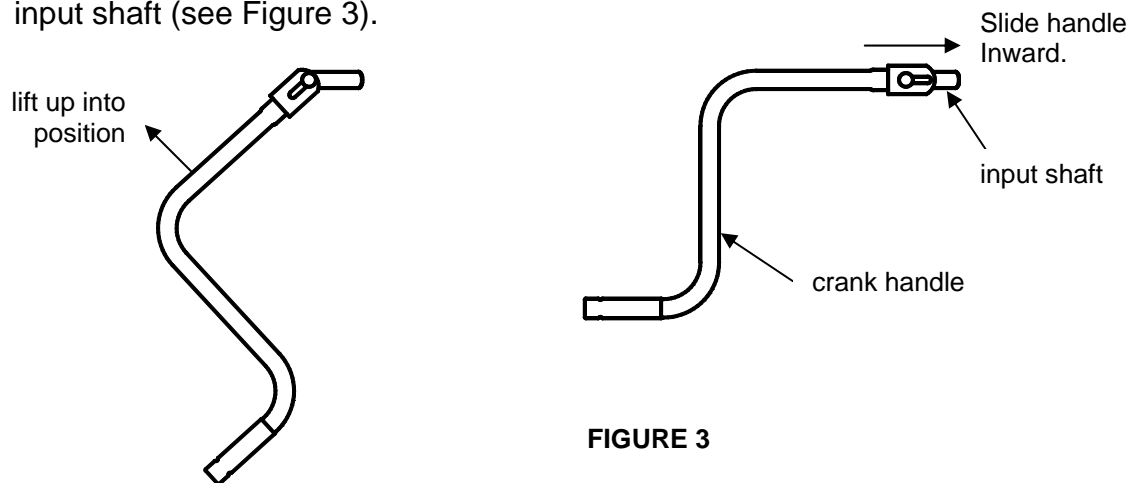

FIGURE 3
1. To latch into the cranking position, raise the crank handle into the operating position and push inward on the crank until the handle latches securely onto the landing gear input shaft (see Figure 3).